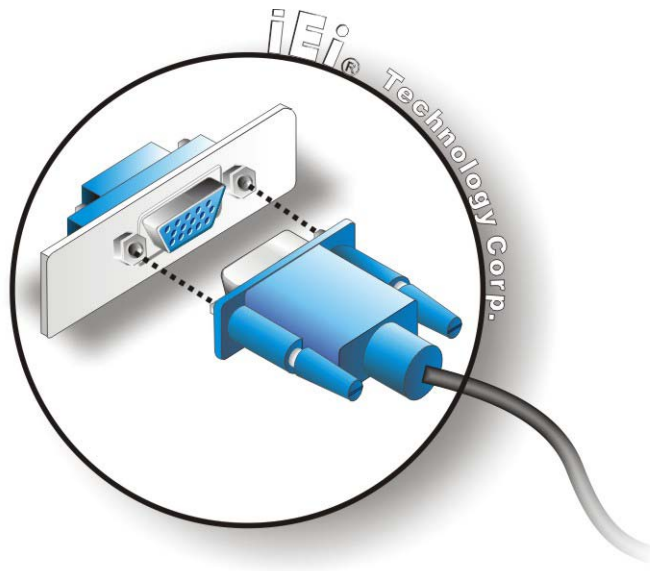

Figure 4-7: VGA Connector
- Step 3: Insert the VGA connector.** Once the connectors are properly aligned with the insert the male connector from the VGA screen into the female connector on the HYPER-BT. See **Figure 4-7**.